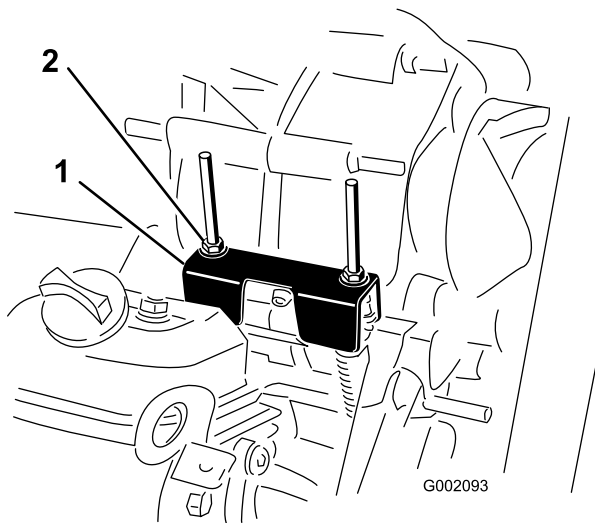

Figure 49
When performing routine maintenance and/or engine diagnostics, the transaxle must be shifted into neutral (Figure 49). The vehicle has a neutral position on the shift lever, which controls the neutral in the transaxle. The following steps should be taken to make sure that the neutral shift lever operates the transaxle neutral correctly:
2. Ensure that the neutral bracket is in the Neutral position (level to the cable mounting bracket located below the shift bracket) by turning the driven clutch (Figure 49).
3. Tighten 1 of the locknuts (Figure 49) to achieve a gap of 0.76-1.52 mm (0.03-0.06 inch).